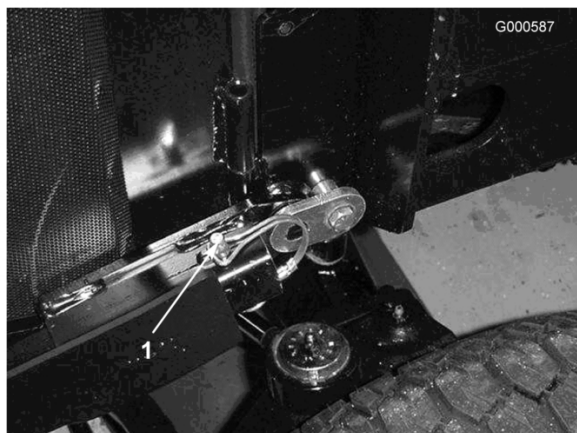

Figure 20
2. Unhook lanyard from hood pin, remove pin and slide hood tubes rearward off guides (Figure 20).